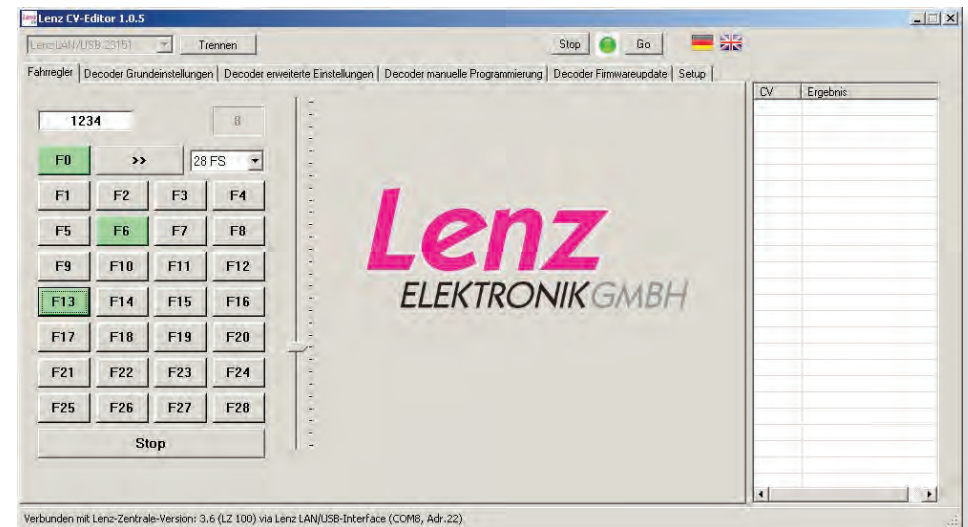

Fig. 5: Integrated manual control for checking your settings or for test driving of a new locomotive, e.g. on a roller rig
- ✓ Panel for immediate testing of settings (fig. 5)